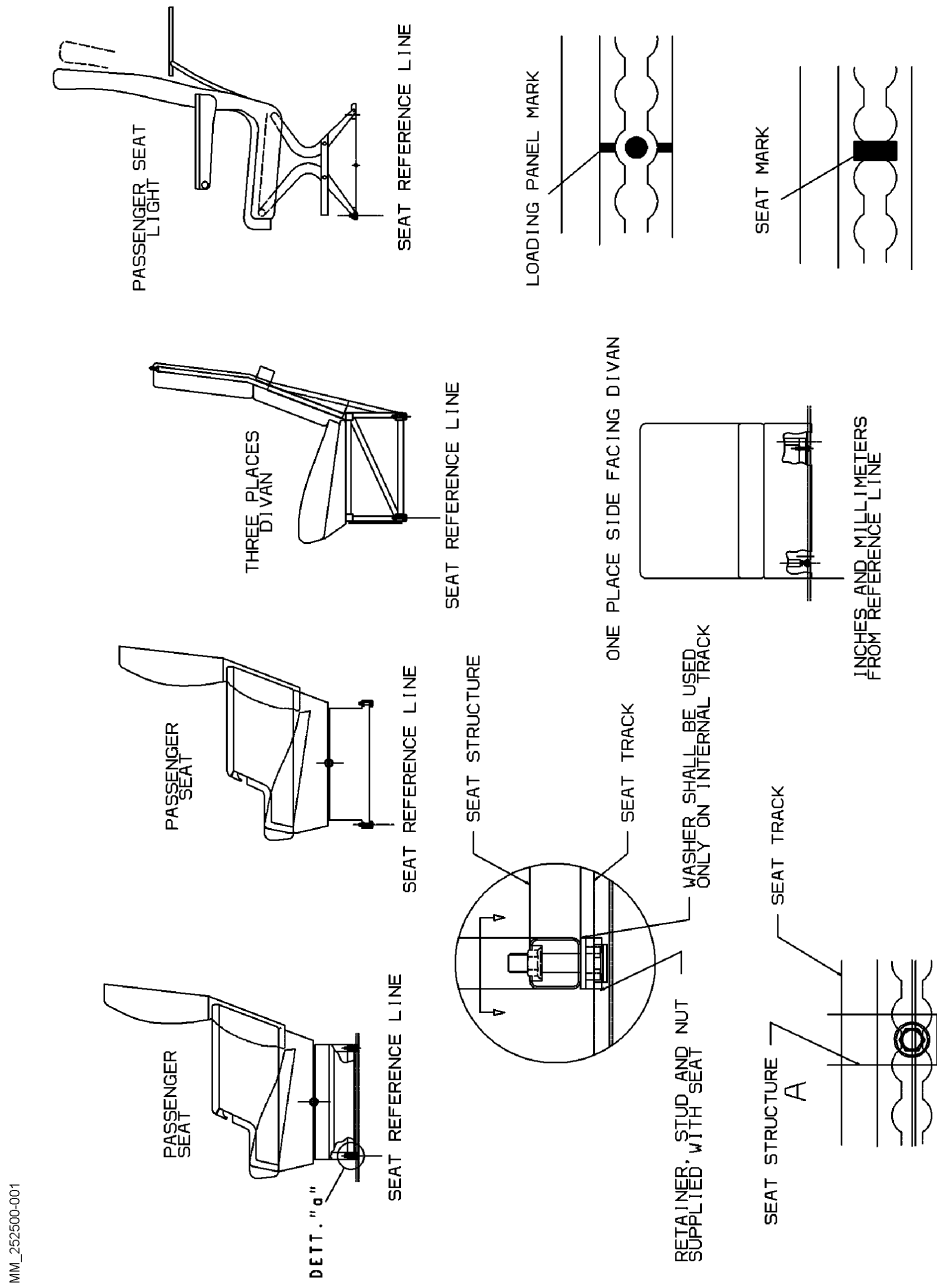

Fig. 1 - Seat Tracks Marks
- C. The marks are located on the seat tracks. (Refer to Fig. 1). The seats must be installed with the forward anchor stud (left or right depending on whether the seat is aft facing or front facing) at the mark on the track (Refer to Chapter 25). Refer to the figures of this section to know if the marks are located on the inner or outer seat tracks.